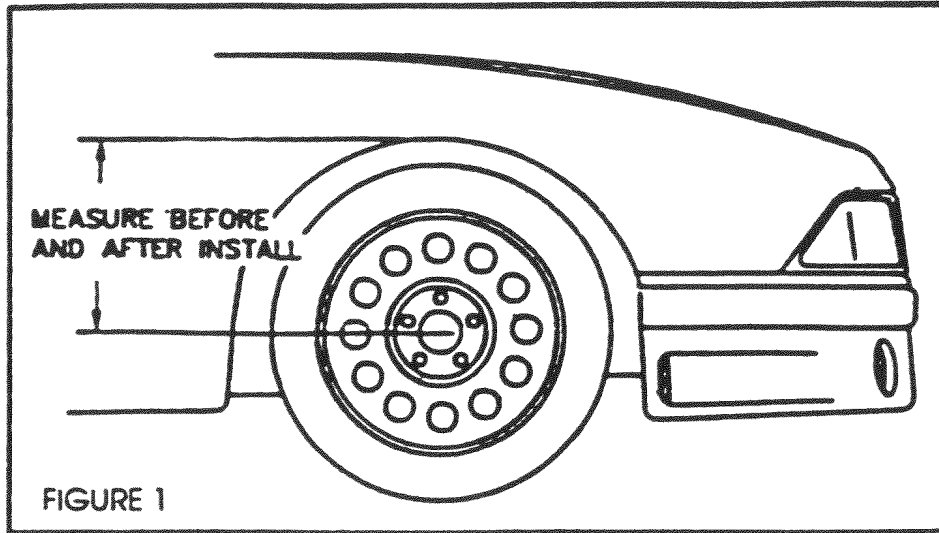

FIGURE 1
1. We strongly recommend that vehicle height measurements be taken BEFORE and AFTER all spring installations. Measure the distance from the inside of the fender arch down to the hub center at all four wheels-RECORD THIS INFORMATION!! All measurements should be taken with the vehicle on a smooth, level surface after the vehicle has been driven. This comparison is useful in both verifying the amount the vehicle is lowered and identifying ride heights particular to the specific vehicle. (See Figure 1)